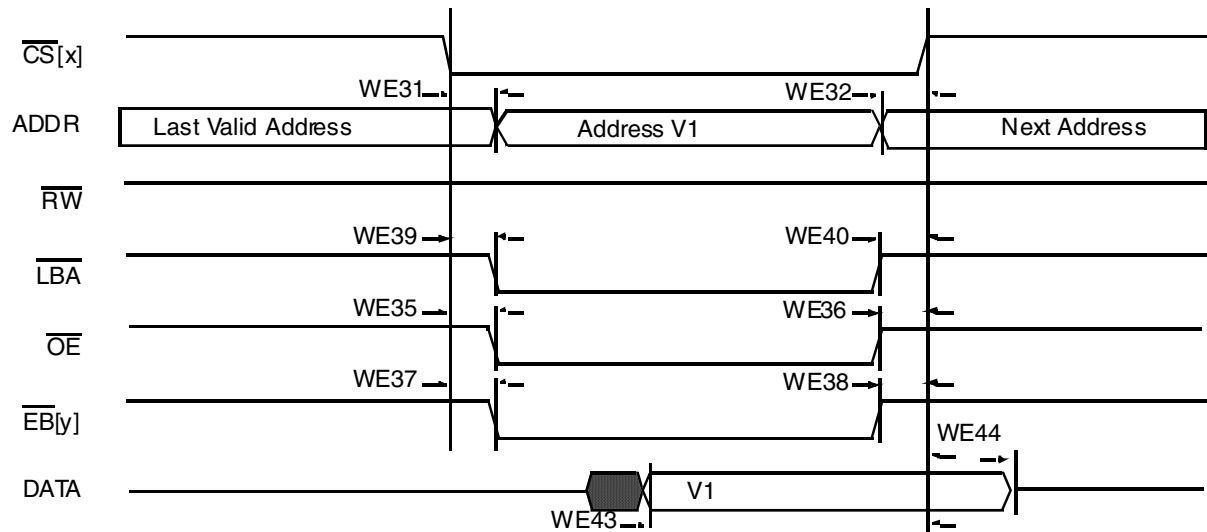

Figure 22. Asynchronous Memory Read Access
Figure 22 through Figure 26, and Table 34 help to determine timing parameters relative chip select (CS) state for asynchronous and DTACK WEIM accesses with corresponding WEIM bit fields and the timing parameters mentioned above.